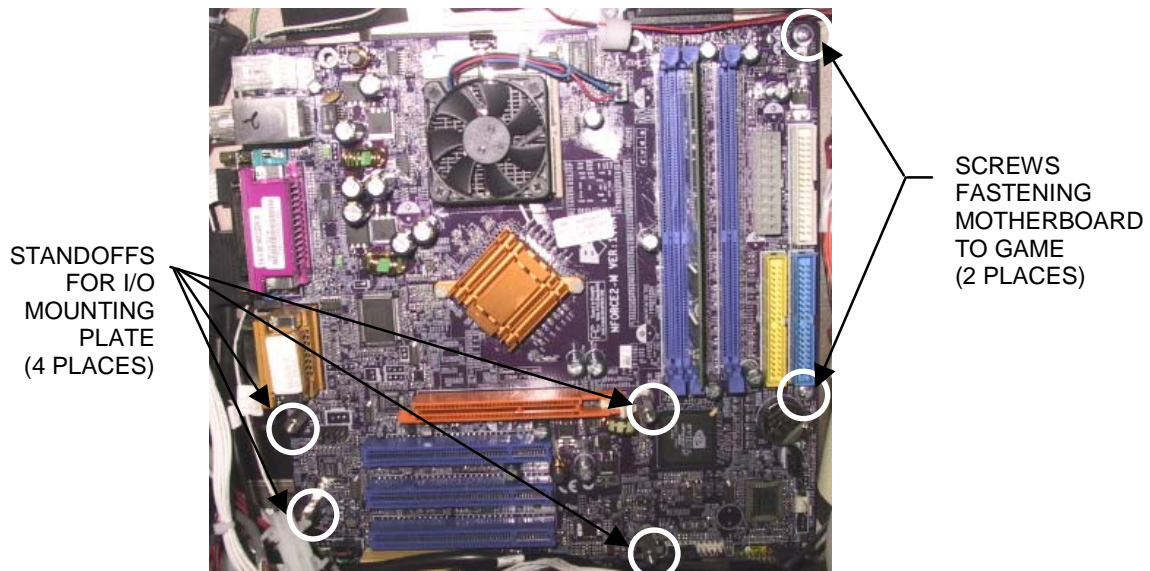

FIGURE 3 - ECS MOTHERBOARD ASSEMBLY
5. Remove the 2 screws securing the motherboard assembly to the game, located on the right side of the motherboard. See Figure 3.
6. Disconnect all connections to the motherboard, then carefully remove the board. Remove the 4 standoffs and hex nuts that were supporting the I/O mounting plate (see Figure 3). Place the motherboard into an anti-static bag for storage. **NOTE: Be sure to read the Motherboard Handling Precautions before handling the board.**
1. Secure the 4 standoffs for the I/O mounting plate to the new motherboard with the hex nuts. Situate the motherboard on top of the fish paper, and secure with 2 mounting screws inserted on the right side of the board. See Figure 3.